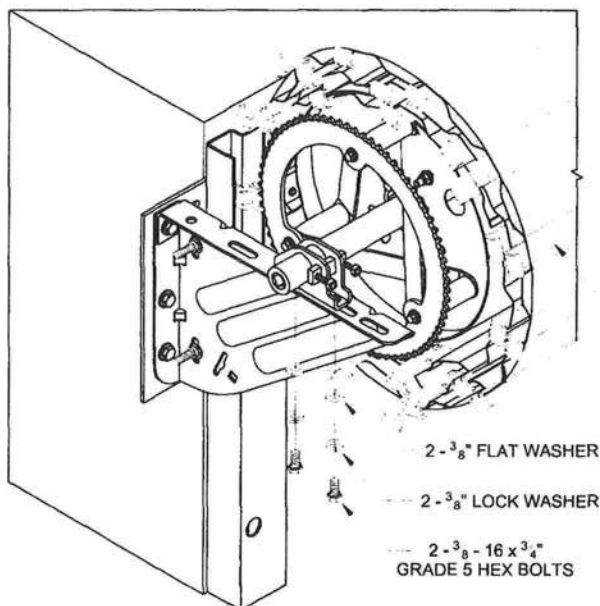

FIGURE 18: STAMPED AXLE SUPPORT TO BRACKET
- Attach stamped axle support to commercial bracket using 2 each $\frac{3}{8}$ - 16 x $\frac{3}{4}$ " grade 5 hex bolt, $\frac{3}{8}$ " lock washer and $\frac{3}{8}$ " flat washer. See figure 18.